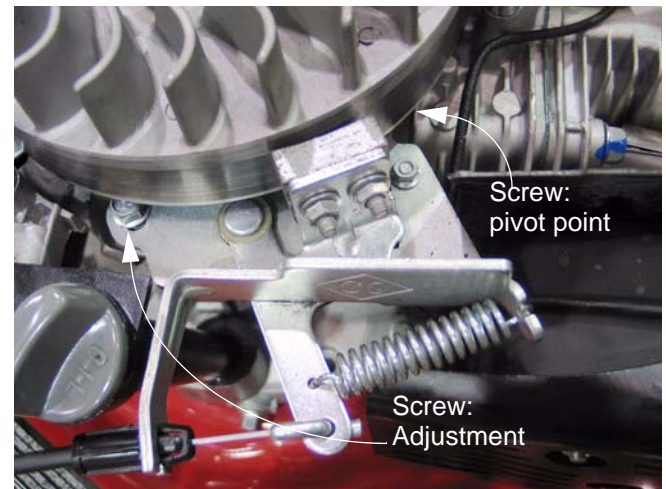

Figure 7.20
**NOTE:** The bolt near the cylinder is a pivot point and the bolt by the dip stick is in a slot. See Figure 7.20.